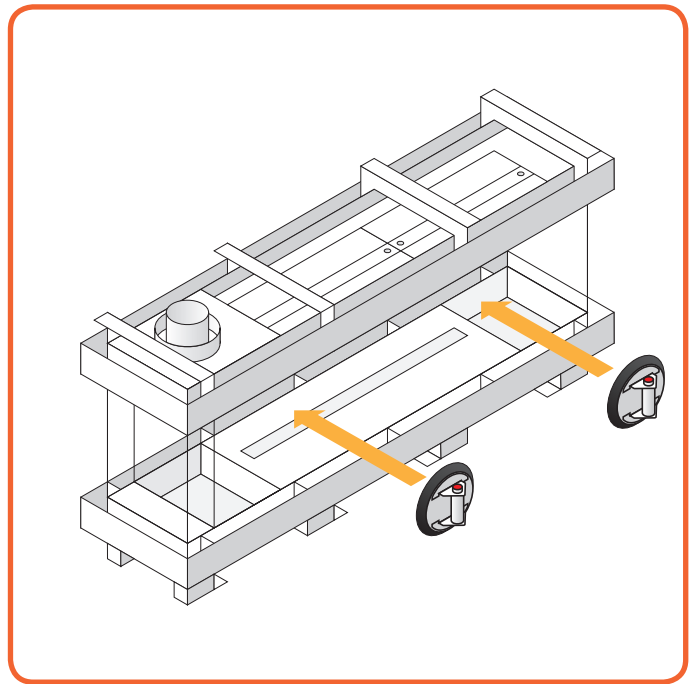

Figure 10.17 -
- Place the suction cups on the glass and ensure that it is properly sucked in so that the window cannot come loose (**Fig. 10.17**).